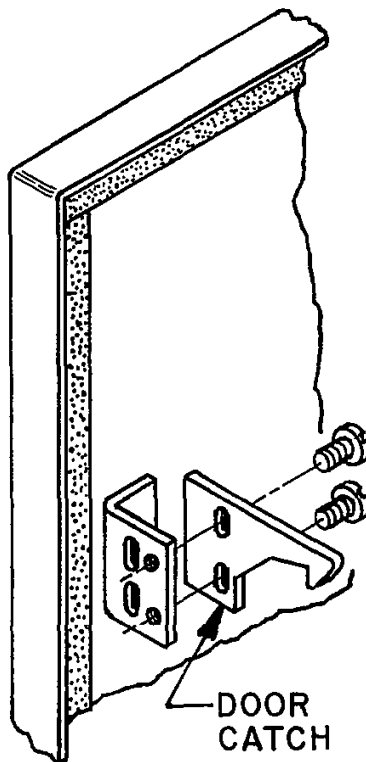

Figure 1
Step 4 – Install door catch (furnished by disconnect manufacturer) on bracket that is welded to the inside of the Hoffman bulletin A19 or A19S enclosure door. See Figure 1 below. (the disconnect manufacturer door catch bracket is not required) See disconnect manufactures instructions to adjust door catch to properly interlock with the disconnect operating handle.